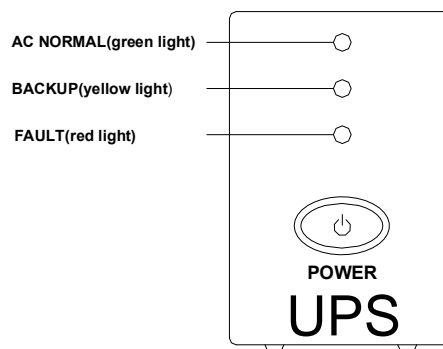

Figure 9 (LED display mode 2)
■ **Operating by the LED display mode 2 ((Reference the figure 9):**
3. BACKUP INDICATOR (yellow light slow blinking) ---The indicator starts slow blinking when utility power is outside acceptable limits. The battery is powering the UPS outlets. The expected runtime for a typical personal computer (PC) is about 10 to 20 minutes.